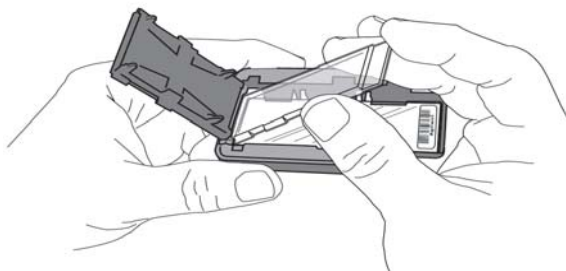

Figure 4 Inserting the ozone-barrier slide cover (shown for Scanner B and Scanner C)
- In environments in which the ozone level exceeds 50 ppb, immediately put the slides with active microarray surface (with “Agilent”-labeled barcode) facing up in a slide holder. Make sure that the slide is not caught up on any corner. Put an ozone-barrier slide cover on top of the array as shown in Figure 4. Refer to the *Agilent Ozone-Barrier Slide Cover User Guide* (p/n G2505-90550), included with the slide cover, for more information.